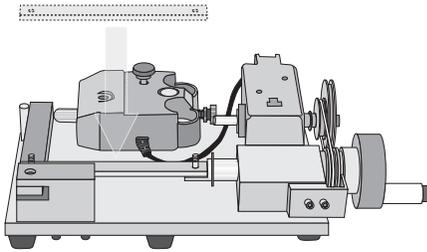

Figure 3: Calibration Bar Set-up
- Remove the nuts and clips from the apparatus platform (Figure 3).